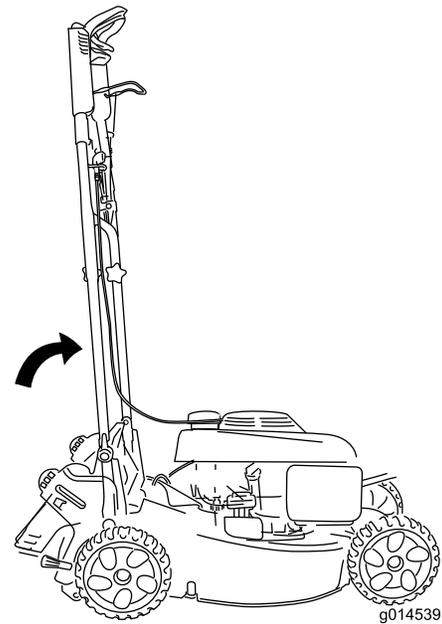

Figure 29
- To store your machine in the smallest amount of floor space, set the handle in the vertical position (Figure 29) and secure the handle locks.